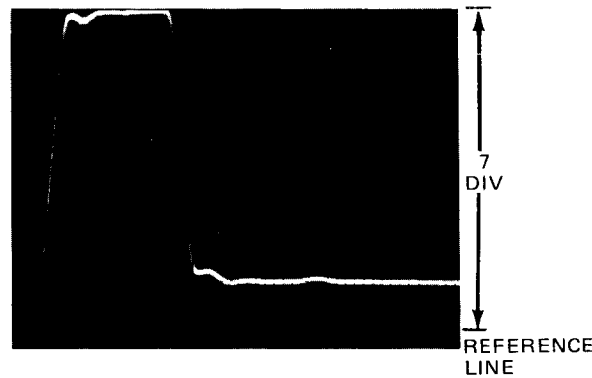

Figure 14. Absolute Voltage Measurements
**Example:** Assume vertical deflection of 7 divisions, waveform above reference line, and VOLTS/DIV setting of 0.2 (figure 14). Absolute Voltage =  $7 \times 0.2 = 1.4$  volts. Waveform is above reference line so voltage is positive.